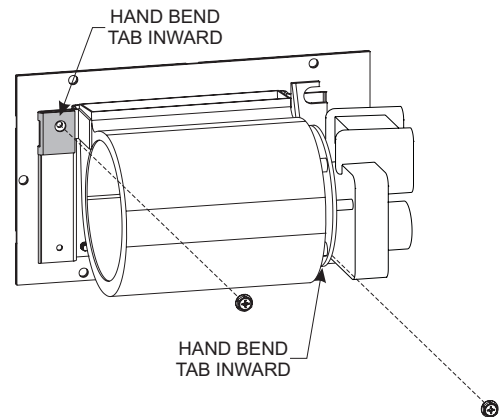

Figure 11
6. Bend tab as shown in **Figure 11** and secure with (2) screws.